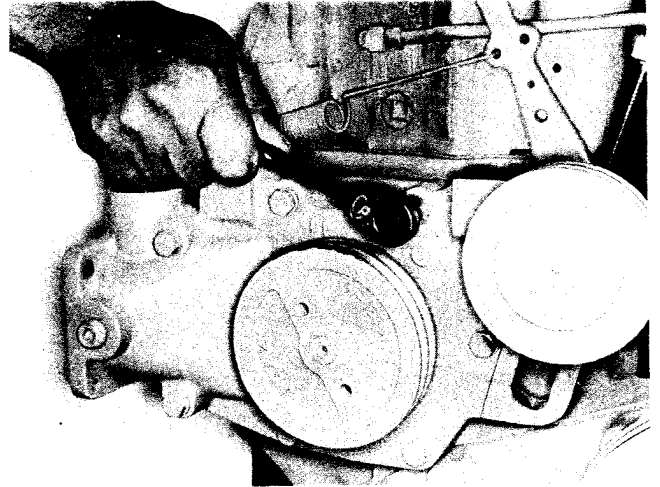

Fig. 0-13, (N100121). Removing water pump assembly
8. Remove capscrews and lockwashers securing water pump assembly to block. Fig. 0-13. Remove water pump assembly; discard gasket.